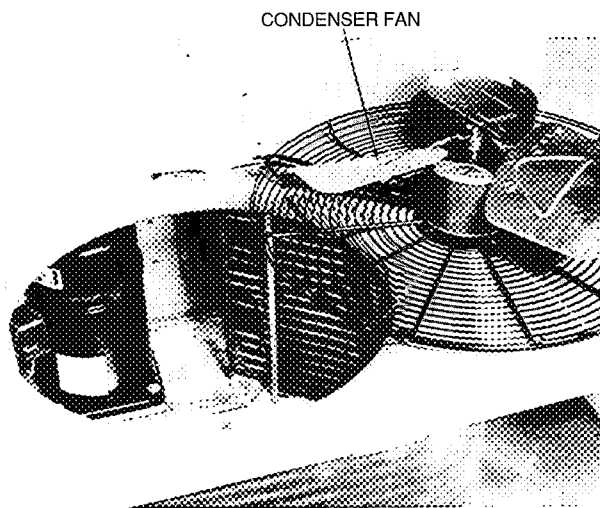

Fig. 26 — Condenser Coil Cleaning
One-Row Coils (sizes (004-006)) — To access one-row coils, remove screws securing condenser-fan grille to condenser coil top cover. Place grille on top of condenser coil top cover as shown in Fig. 26. It is not necessary to remove the top cover.
1. To access 2-row coils, remove screws securing condenser-fan grille to condenser coil top cover. Place grille on top of condenser coil top cover as shown in Fig. 26. It is not necessary to remove the top cover.